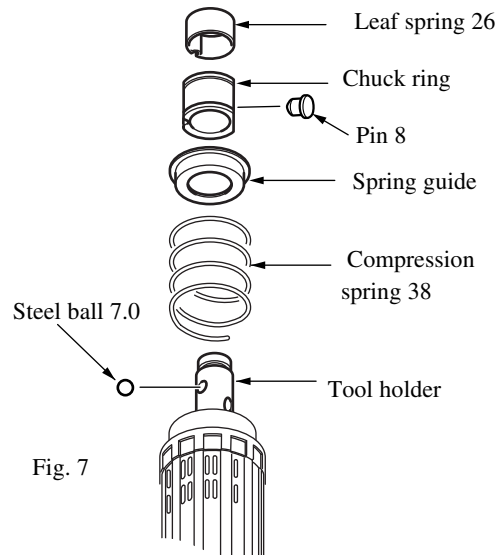

Fig. 7
- 2) Remove Leaf spring 26 from Chuck ring and remove Pin( See Fig.7).
- 3) When removing Chuck ring, Steel ball7.0, Spring guide and Compression spring38 will come off. (See Fig.7)